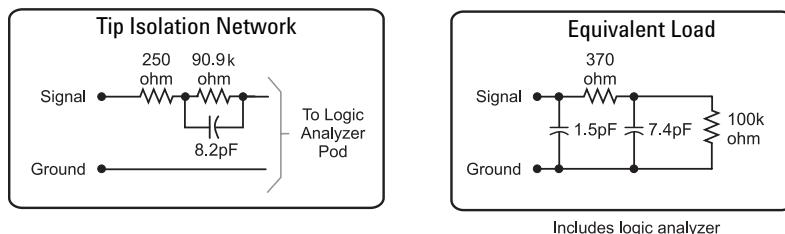

Figure 4.1. Probe tip Isolation network and equivalent load
The standard probing system consists of IC clips, probe leads, probe housing and probe cable. Because it is passive, the standard probing system is smaller, lighter, and much easier to use than active probing systems. This passive probing system is similar to a probing system used on a high frequency oscilloscope. It consists of an isolation network (as shown in Figure 4.1) at the probe tip and a shielded resistive transmission line. The advantages of this system are:
- High input impedance. See Figure 4.1.